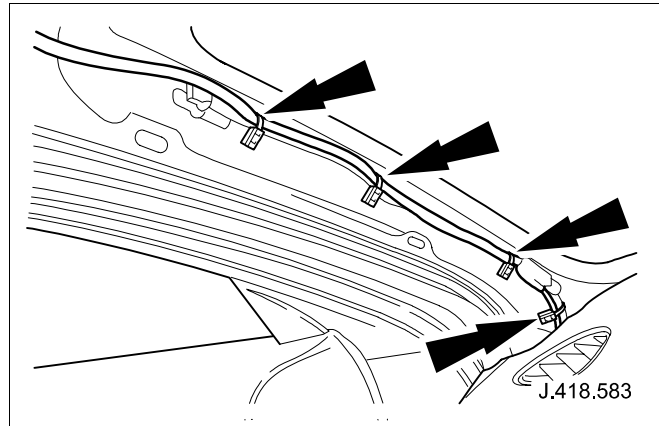

Fig. 18
- 51 Using tie straps secure antenna lead to left hand A-post harness at four places. (See Fig. 18)